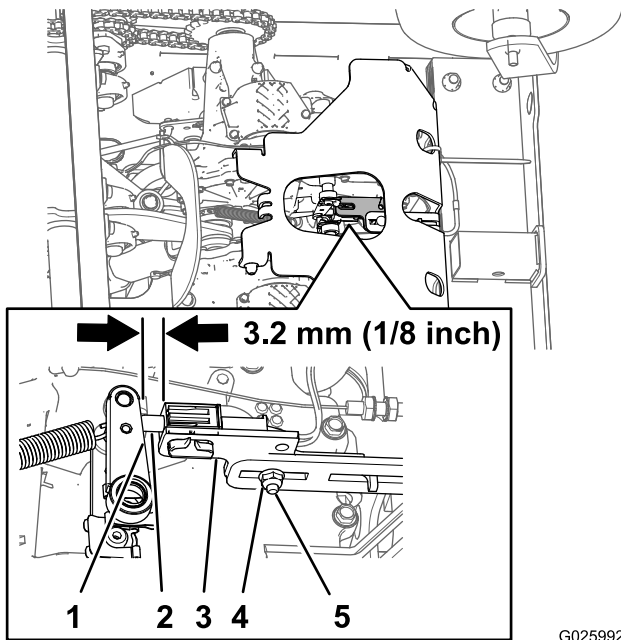

Figure 49
5. Check the distance between the parking brake-switch bracket to the brake arm of the transmission (Figure 49).
- A. Loosen the locknut and carriage bolt securing the parking brake switch bracket (Figure 49).
- B. Adjust the position of the brake-switch bracket until the gap (Figure 49) between the switch bracket and the brake arm is 3.2 mm (1/8 inch)
- C. Tighten the locknut and carriage bolt (Figure 49) securing the brake-switch bracket to 1017 to 1243 N-cm (90 to 110 in-lb).